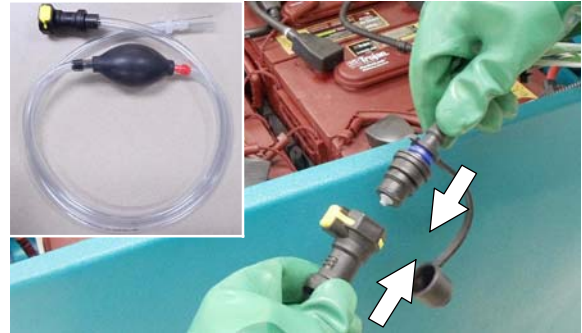

FIG. 131
3. Locate the battery fill hose coupler inside the battery compartment. Remove the dust cap and connect the hand pump hose (Figure 131).